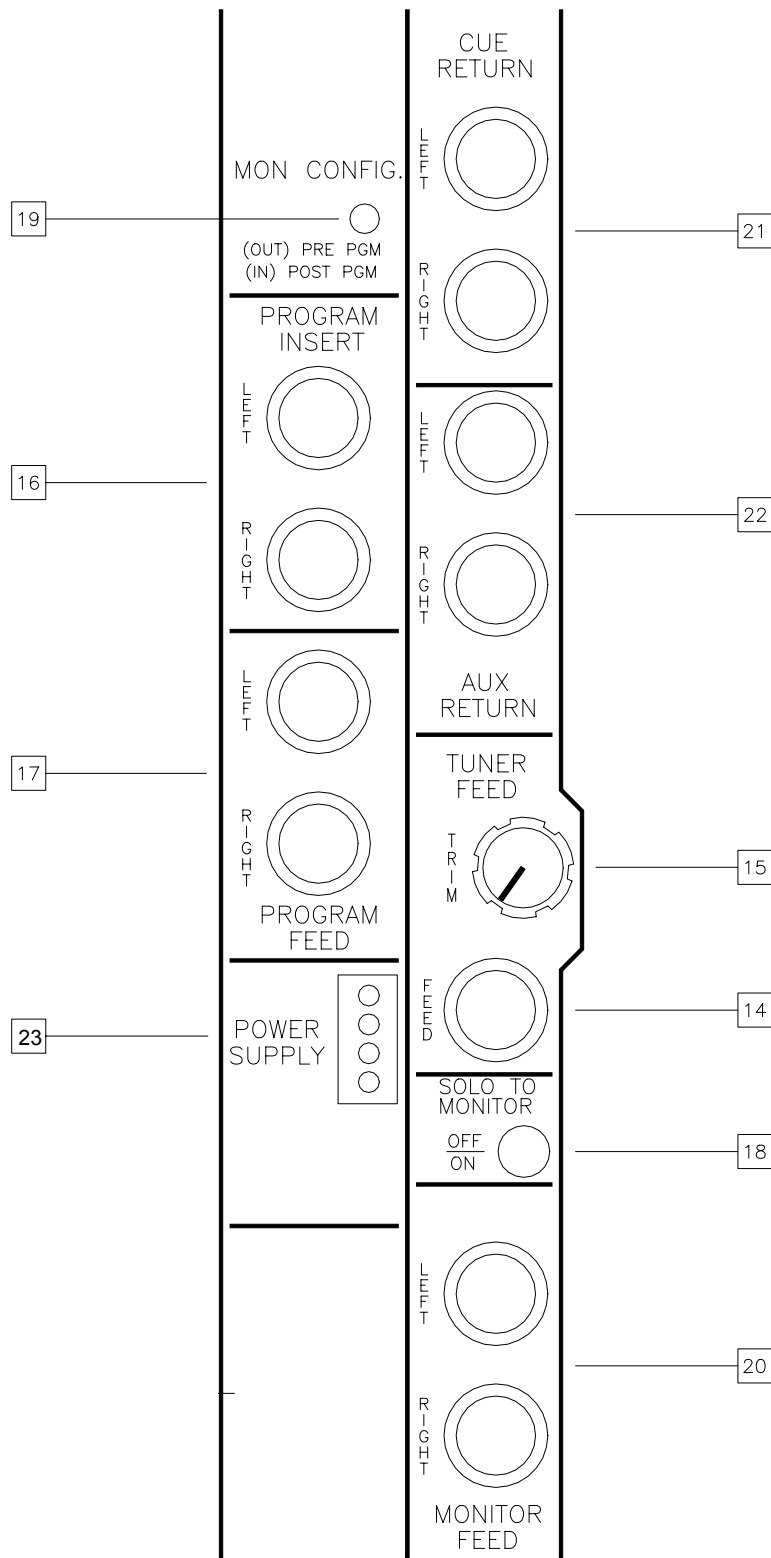

Figure 10. Master Input/Output Connectors
*Refer to Figure 10 for location of items 14 thru 24.*